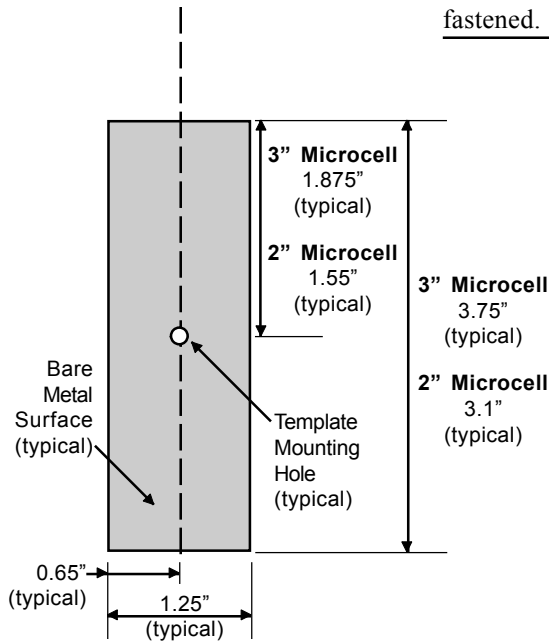

Figure 6-8. Prepared Mounting Surface
1. Using the #8-32 tap, thread the template mounting hole for the vertical Microcell (drilled during *Surface Preparation*) to a minimum  $\frac{5}{8}$ " (16mm) depth, full threads. Remove any burrs from the hole. Fig 6-8